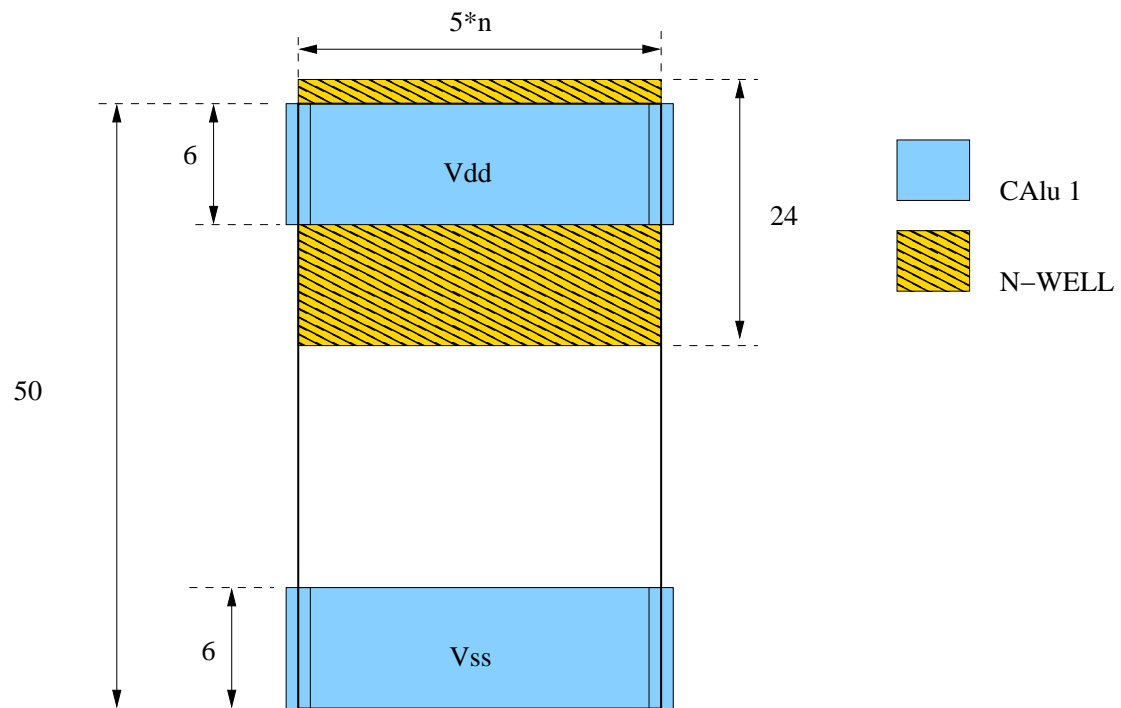

Figure 4: a cell model of the sxlib library
- draw the cell under **GRAAL** by respecting the gauge specified on the figure 4.